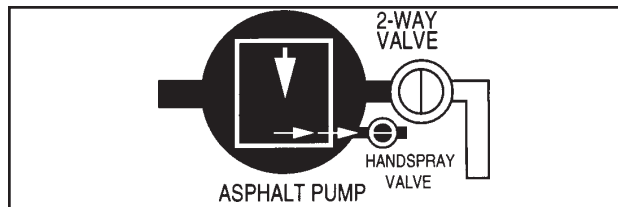

FIGURE 3-24. HANDSPRAY VALVE
5. Open the Handspray Valve (Figure 3-24).